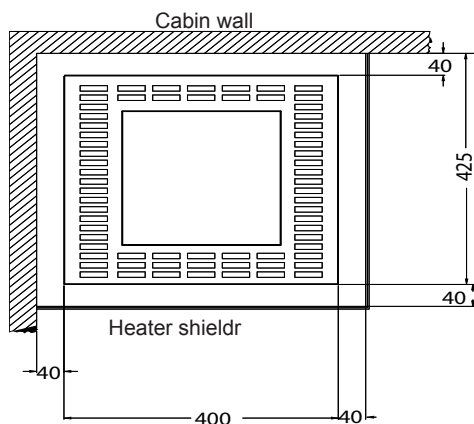

Fig. 1
- When you are assembling the sauna heater you must ensure that the vertical distance between the top edge of the sauna heater and the sauna ceiling is at least 90 cm and that the horizontal (at the side) distance between the heater and cabin wall is at least 4 cm (Fig. 1).